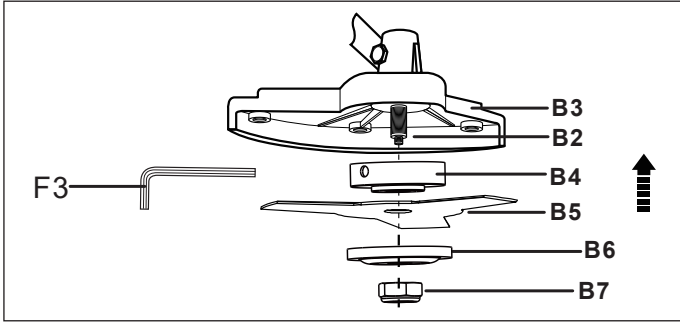

Fig. 5
- Insert the Hex key 4 mm (F3) into the hole to lock the rotation of the backing flange (B4).
- f). Secure the blade (B5) with the safety nut (B7) removed earlier. Using the multi-tool I (F1) tighten the safety nut (B7) anti-clockwise to secure the parts in place. (See Fig. 5)
- g). Remove the Hex key 4 mm (F3).